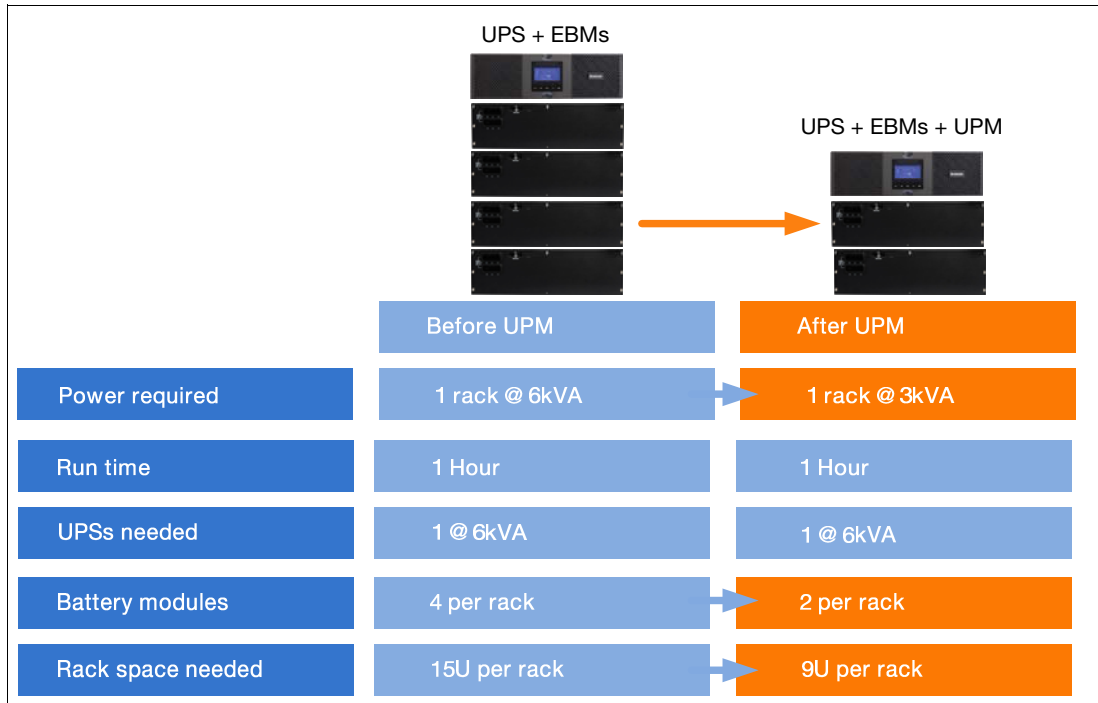

Figure 4 UPM CapEx saving example
- Space and rack consolidation: Less hardware up front means a reduction of physical infrastructure cost and space. For instance, as shown in Figure 4 on page 8 using a scenario of 3 racks, 6kVA and a half hour of runtime, the end user can use UPM to save one EBM per rack, while still yielding a half hour of runtime by using UPM's load shedding and power capping features. The savings are also realized by reducing the number of batteries needing replacement during the UPS's lifespan. The end user can reduce CapEx spend and total cost of ownership when swapping out battery modules for UPM.